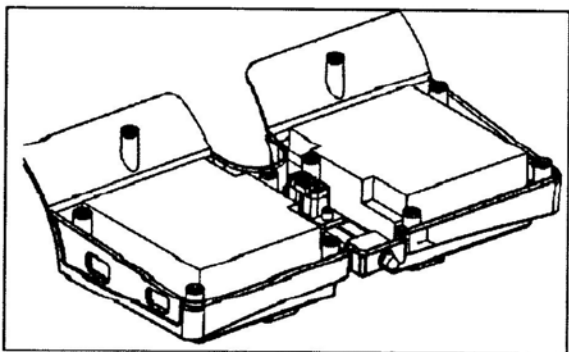

Figure 14. Battery replacement.
3. Remove the eight (8) screws from the perimeter of the battery pack.
5. Disconnect the black (-) and red (+) battery cables from the battery terminals of each of battery: See figure 14